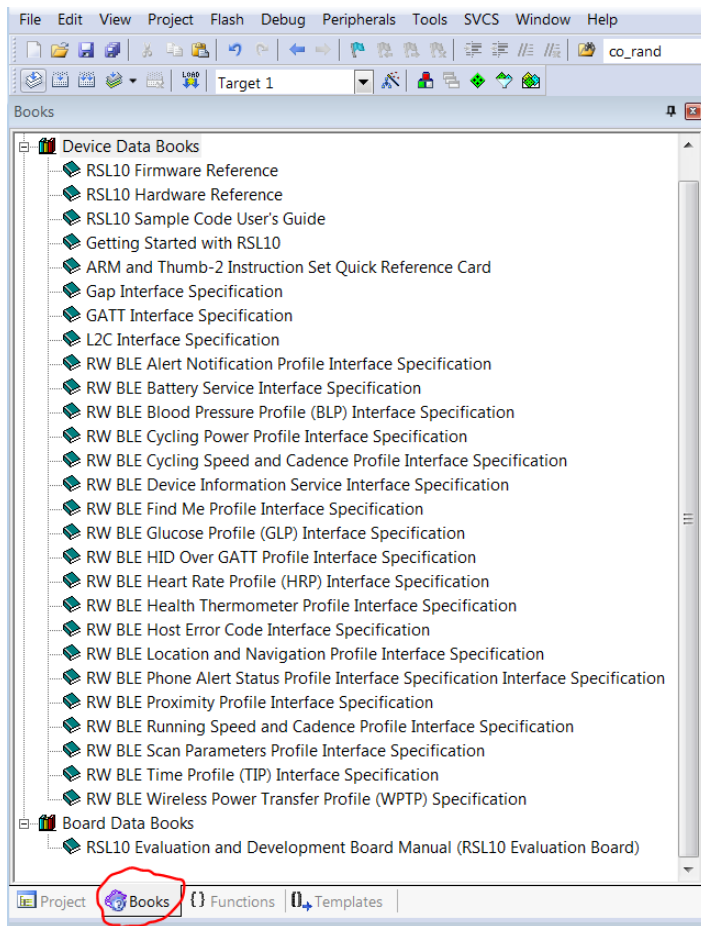

Figure 55. Accessing RSL10 Documentation from the Keil μ Vision IDE
- Keil μ Vision IDE: documentation is available in the **Books** tab, as shown in Figure 55.